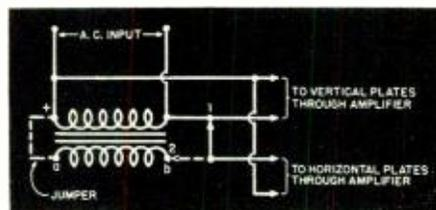

Fig. 4. Method of employing an oscilloscope when determining proper phase polarity.
This is a rapid and safe method, wherein very low exciting voltages may be used. The connections are shown in Fig. 4. The preliminary step is to use connection (1) to determine the "in phase" pattern. Since the same voltage is applied to both sets of plates, the trace will be a straight line. With equal horizontal and vertical amplitudes, the line will be inclined either 45° or 135°. The 45° position is considered standard, but in either case an "in phase" reference position is established.